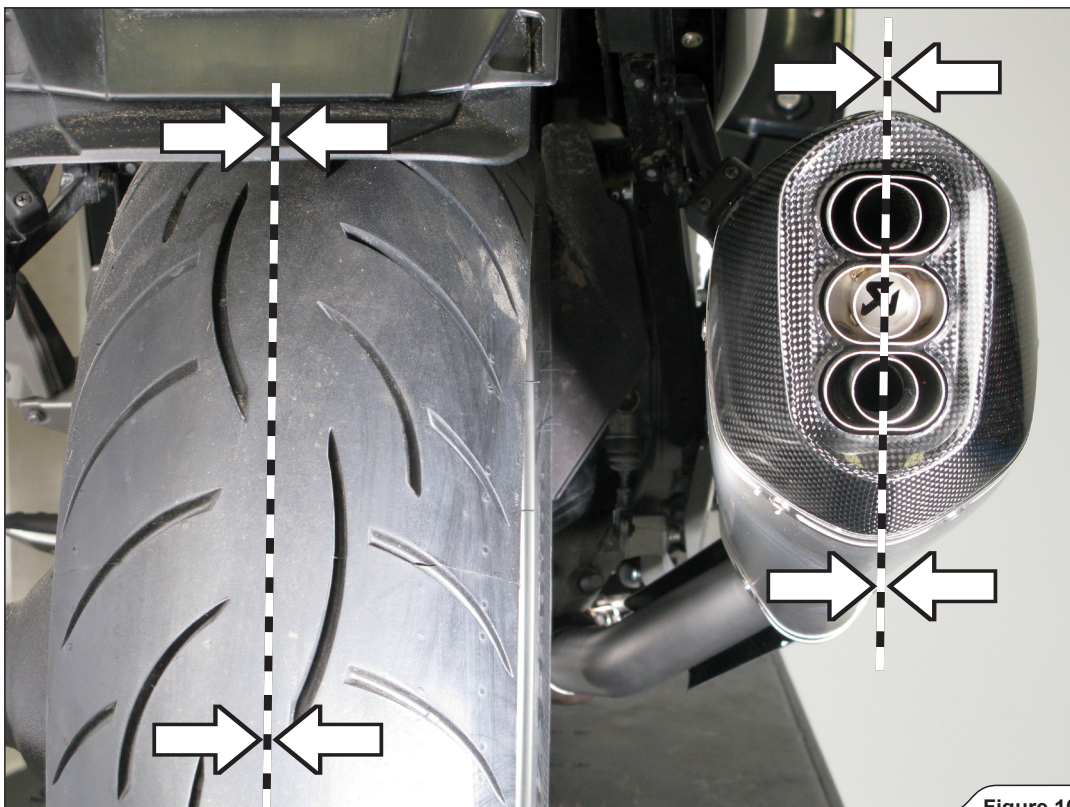

Figure 10
- Align both mufflers in respect to the rear tire (Figure 10, 11).